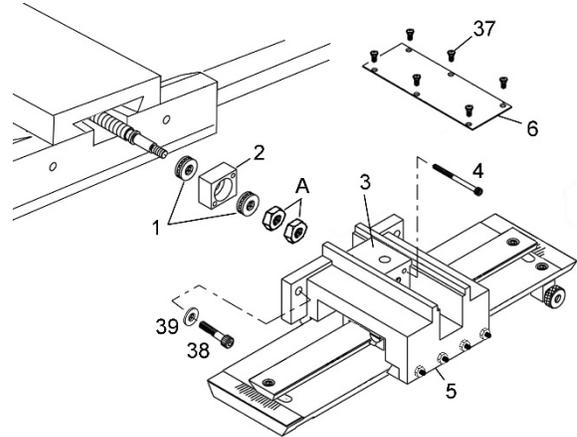

Figure 2
- On the taper attachment, remove eight flat head screws (#37) and remove cover (#6). See Figure 2.
- Install block (#2, with thrust bearings #1 installed) onto cross screw. See Figure 2.
- Reinstall nuts (A, Figure 2) onto end of cross screw. Tighten inner nut first to snug up bearing assembly. Turn cross slide handle and check for smooth rotation. Tighten outer nut to secure the adjustment.
- Attach base casting (#5) to predrilled holes in carriage with M8x30 hex socket cap screws, and flat washers (#38/39, Figure 2). Tighten the cap screws enough to hold base in position but loose enough to allow adjustment with rubber mallet.
20. Reinstall cover (#6, Figure 2).